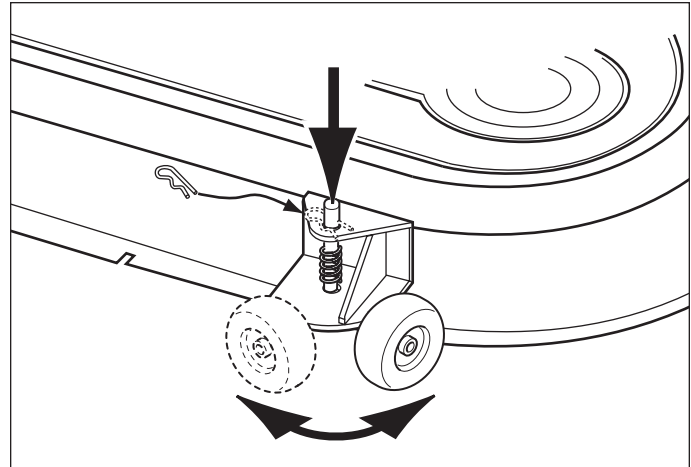
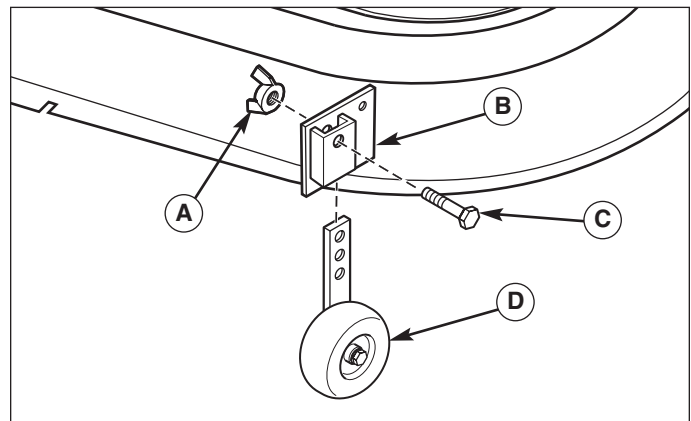

Figure 17. Pivoting the Gauge Wheels
Figure 18. Sliding Bracket Gauge Wheel Adjustment
5. Remove the hair pin clip, push down on the top of the spindle, and rotate the gauge wheel into sliding position (see Figure 17). Replace the hair pin clip.
6. Remove the nylock wing nut (A, Figure 18) from cap-screw (C). Slide out capscrew (C) from gauge wheel bracket (B). Change position of gauge wheel assembly to its lowest height. (see Figure 18).
15. Pivot the two front gauge wheels from sliding position to mowing position by pushing down on the top of the spindle and pivoting the wheel (see Figure 17). Move the left rear slide wheel (Figure 18) into mowing position, if equipped.